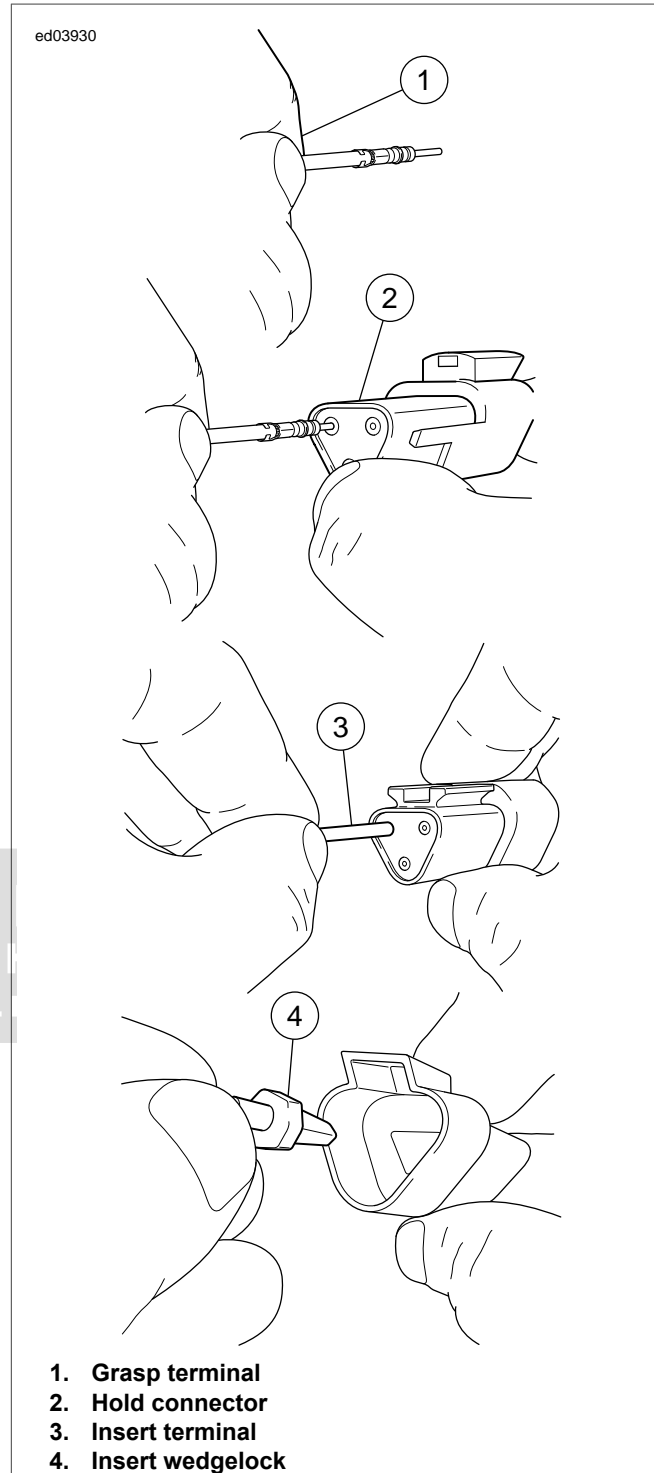

Figure B-15. Inserting Terminals
1. See Figure B-15. Grasp terminal approximately 1.0 in. (25.4 mm) behind the terminal barrel.